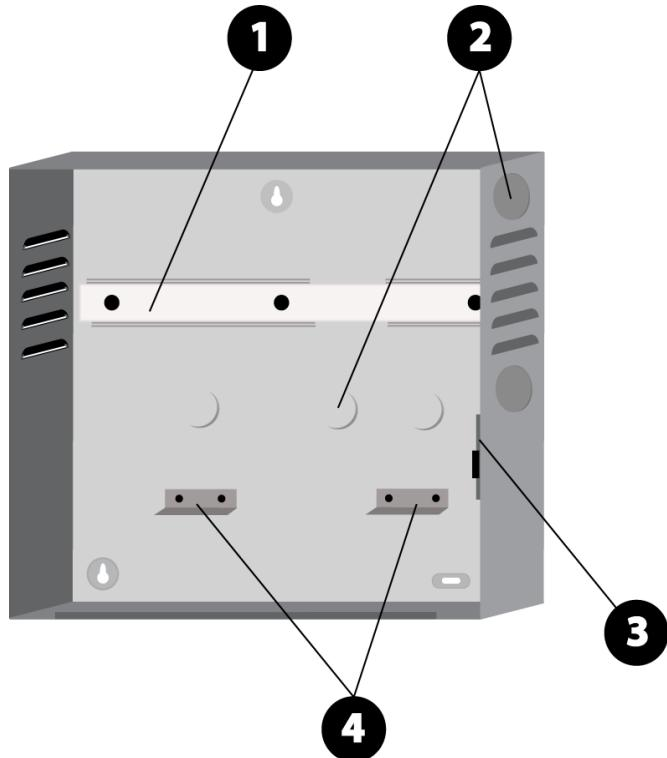

Figure 4.1 Parts of the enclosure
1. Mount the AMC on the rail (item 1 in *Figure 4.1*).
2. Place the battery on the bottom of the panel, and secure them beneath the battery clips (item 4 in *Figure 4.1*).